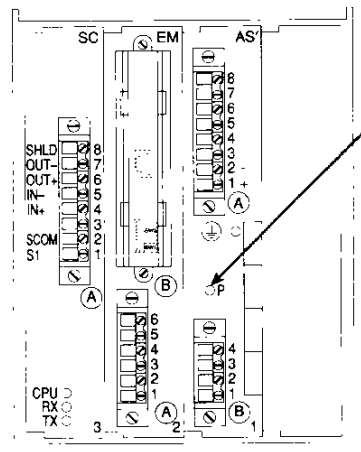

Figure 39: Location of parameter setup mode access hole (marked P)
1. Locate the parameter setup mode access hole marked *P* on the rear of the digital relay. The access hole is located on the lower portion of card 1. Insert the tip of a pen into the access hole and press for one second to switch to the Setup mode (figure 39). The letter "P" displays at the extreme right of the LCD display (figure 41), indicating that the digital relay is in the (parameter) Setup mode.